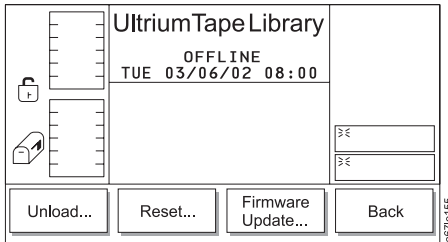

Figure 4-96. Drives Submenu
2. Press the button below the **Drives** softkey. The Drives Submenu displays (see Figure 4-96).
5. To return to the Drives Submenu (see Figure 4-96), press the button below the **OK** softkey. To return to the Main Menu press the button below the **OK** softkey, then press the button below the **Back** softkey until the Main Menu displays.